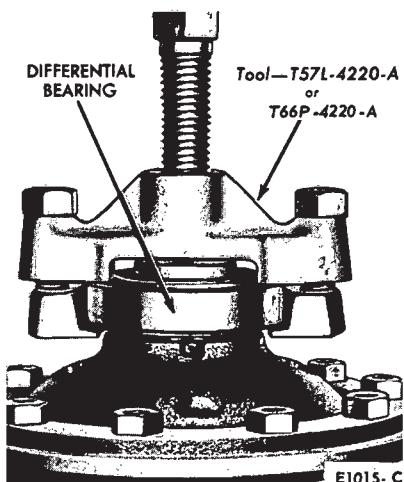

FIG. 17—Removing Differential Bearing
3. Remove the differential bearings with the tools shown in Fig. 17.